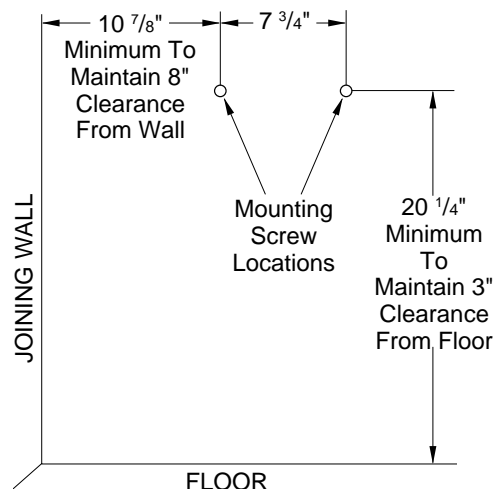

Figure 5 - Mounting Screw Locations
WARNING: Maintain minimum clearances shown in Figure 5. If you can, provide greater clearances from floor and joining wall.
2. Mark two mounting screw locations on wall (see Figure 5).